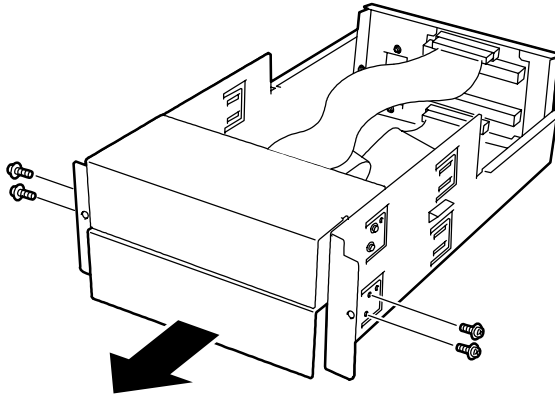

Figure 4-46. Removing the Blank Panel
- Each empty media bay has a blank panel. From the bay where you want to install a drive, remove the four screws securing the blank panel to the 5 1/4-inch device tray and remove the blank panel, see Figure 4-46.